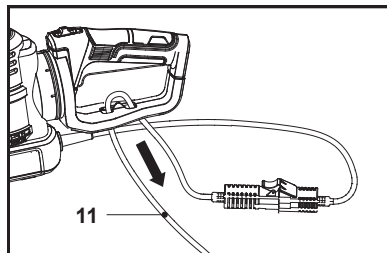

Fig. 4
3. Pull the power cord (11) over the cord retainer (12) and gently tug on the power cord (11) to ensure that it is firmly secured (Fig. 4).